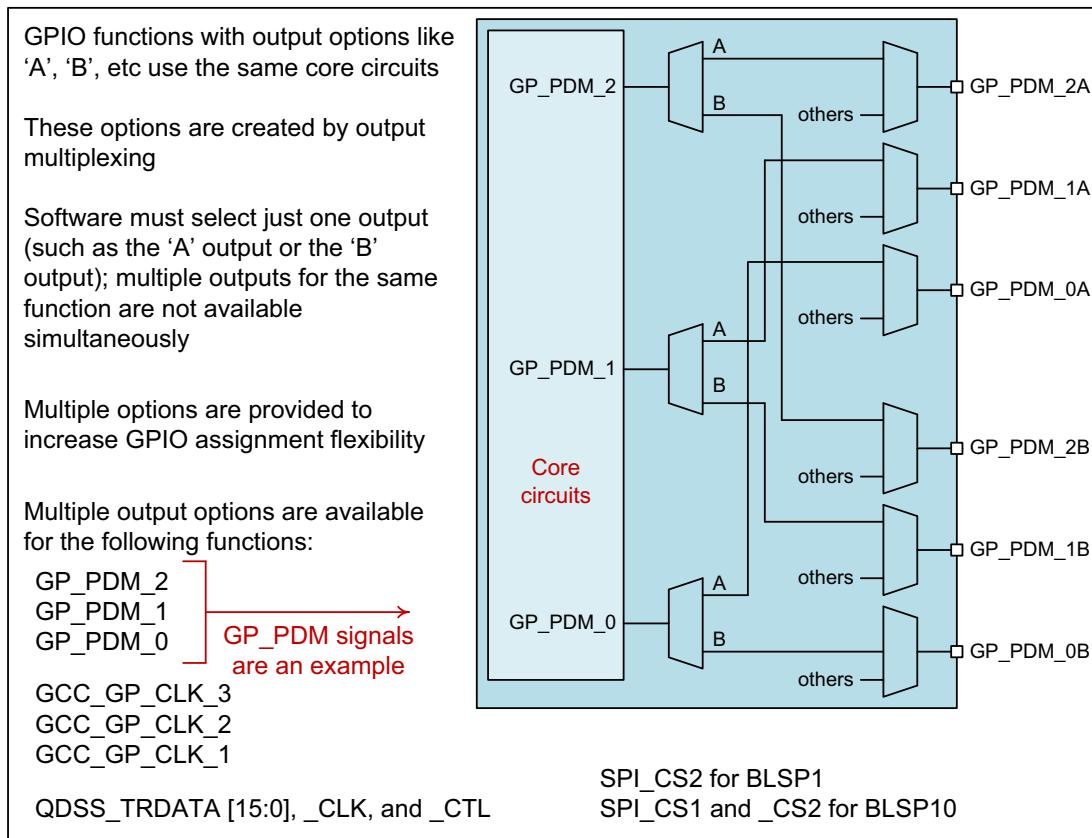

Figure 2-4 GPIO 'A/B' multiplexing
1. GPIO ‘A/B’ multiplexing is explained in Figure 2-4.2. See Table 2-1 for parameter and acronym definitions.
1. GPIO 'A/B' multiplexing is explained in Figure 2-4.